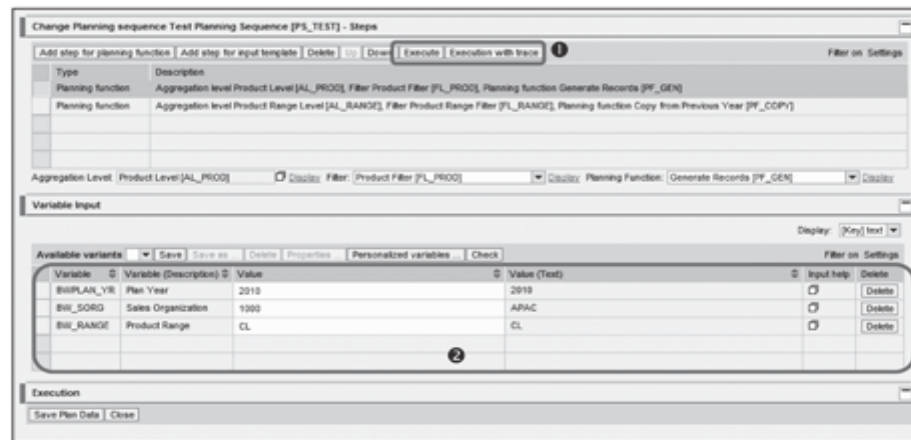

Figure 12.68 Executing Planning Function/Sequence
When you save a planning sequence, the Execute and Execution with Trace buttons are enabled (❶ of Figure 12.68). You can test and validate the complete planning sequence or a selected planning function using this option.